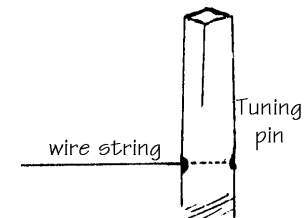

FIG. 21
- A) Poke the end of the wire into, but not all the way through, the small hole in the first tuning pin at the lower right corner of the dulcimer on the inside row. (fig. 21)